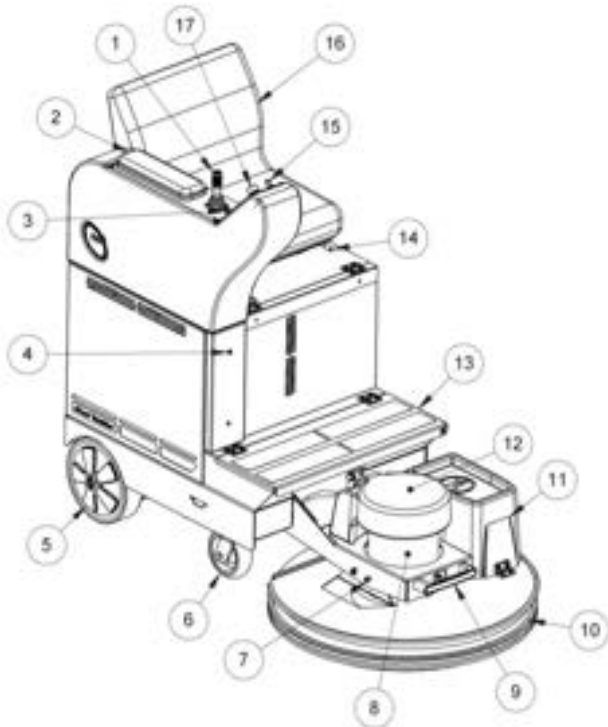
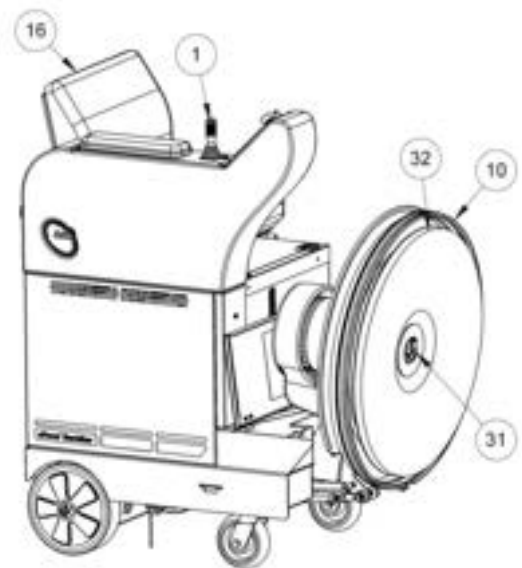

FIGURE 1
FIGURE 4
MACHINE COMPONENTS Figures 1 - 4
- The Foot Plate (Fig. 1 Item 13) must be in the up position to raise the pad head into the pad change position. See Fig. 4.
- Move the front of the machine from/to pad changing position or operating position by grasping the handle (Fig. 1 Item 4) on the front and moving it to the desired position.